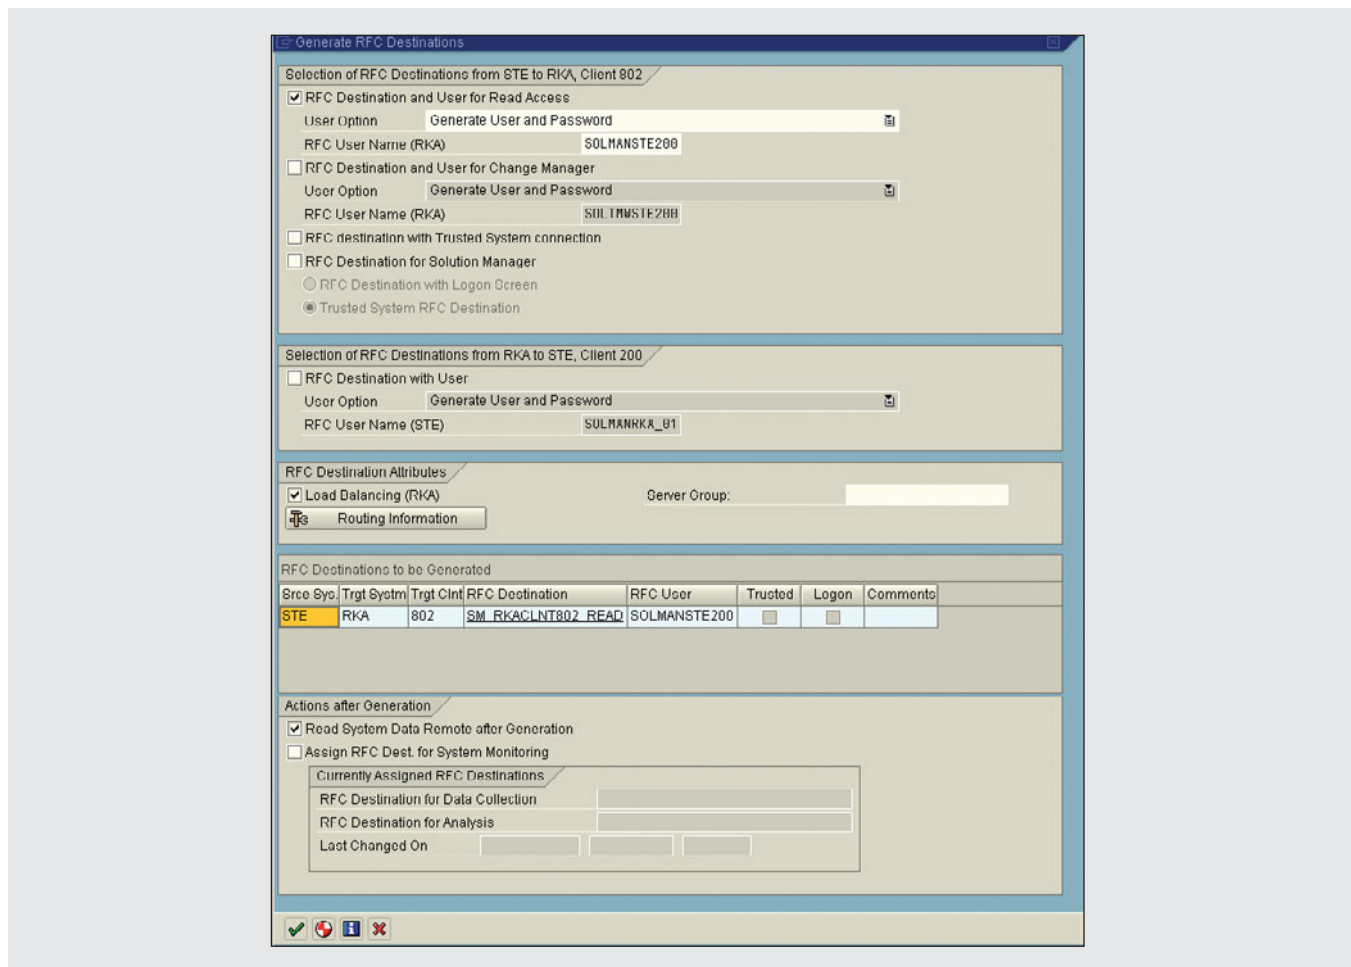

Figure 13 Generate an RFC connection to retrieve system data
5. The Generate RFC Destinations window appears (see **Figure 13**). Since we would like to establish an RFC connection to the satellite system and at the same time retrieve system data, select RFC Destination and User for Read Access as the RFC type (more on RFC types in the next section).